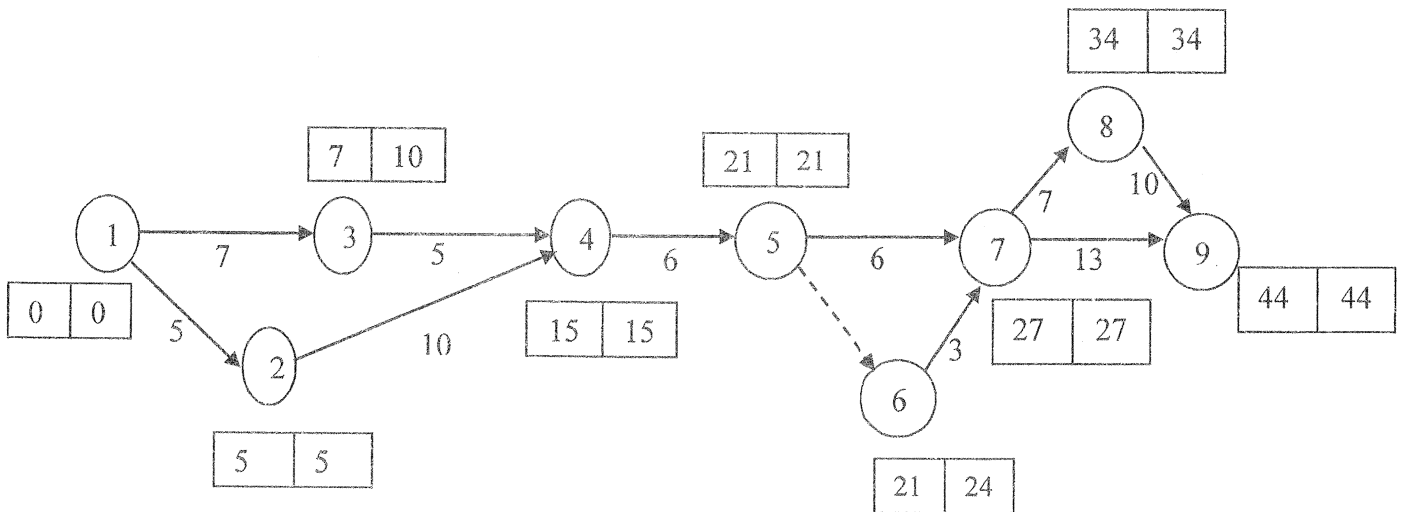

Figure Q2: Activity relationships
- Q2. a) Table Q2 represents the planned time and cost for different activities of a project with possible crashing information. Figure Q2 represents the corresponding network diagram. Carry out the crashing procedure using compression logic for three compressions. Hence suggest the best total project cost and the optimum project duration among the four stages assuming an indirect cost of Rs. 850.00/week [6.0 Marks]